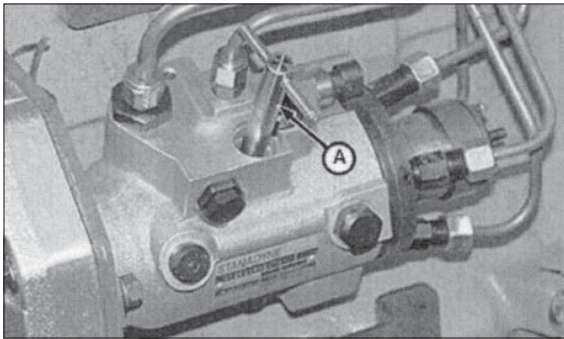

Figure 19 Reproduced by permission of Deere & Company, c.2004. Deere & Company. All reserved.
- Make sure that the number 1 cylinder is locked at the TDC of the compression stroke and install a timing pin (JDG1571) in the flywheel. Also leave the injection pump timing pin (JDG1559) in during pump installation (Fig. 19 A).
- Install the injection pump gear access plate and remove timing pin (Fig. 19 A) from the pump. Install a plug in the injection pump timing pin hole and tighten to below specification.